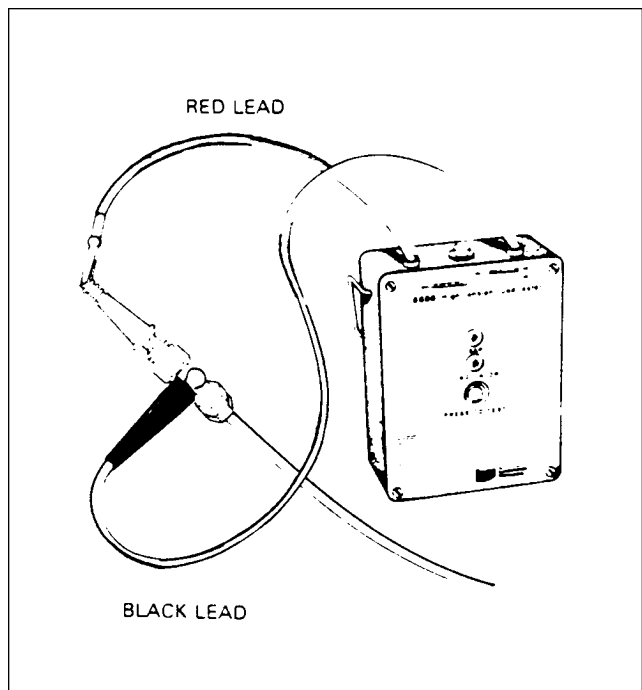

Figure 74-21. Checking Harness Lead Insulation Resistance
- a. Attach red high voltage test lead to contact spring of harness lead. (Refer to figure 74-21.)
- b. Attach black test lead to ferrule of same harness lead. (Refer to figure 74-21.)